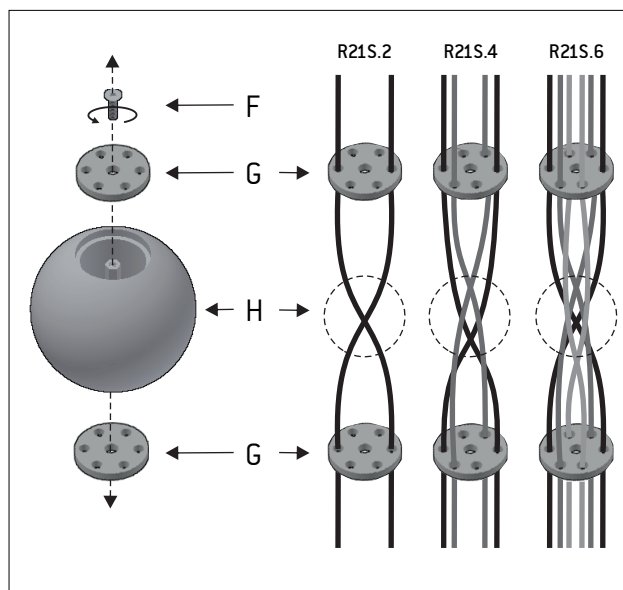

Figure 7
7 - Release the screw (F) from one of the methacrylate covers (G) to release it from the counterweight ball (H). Run the electrical cables coming from the head through the methacrylate cover at the bottom of the counterweight. Cross the cables inside the ball and remove them through the upper methacrylate cover. Tighten the screw (F) back to secure it to the counterweight (H). Figure 7.